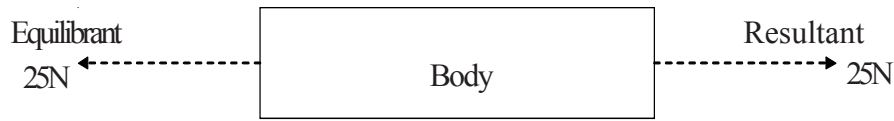

Fig. 2.11
- c) **Equilibrium:** When the resultant of a system of forces acting on a body is zero, the body will be in equilibrium. The force, which applied to bring the body into rest state is called equilibrant and it is equal in magnitude and opposite in direction of the resultant force(fig 2.11)